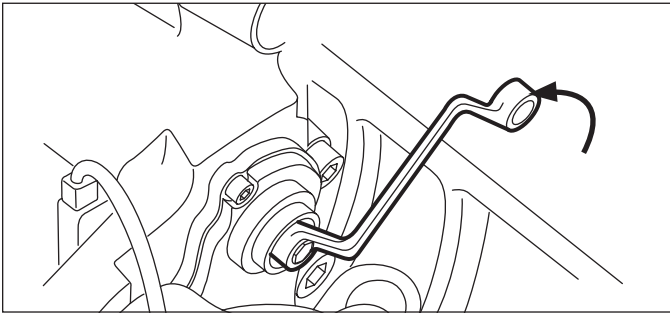

**Figure 14 – Clockwise Rotation**
5. Using a 10 mm, six-point box wrench, turn the shear adapter clockwise until the pads contact the rotor. Note: Do not use an open-ended wrench as this may damage the adapter. (See Figure 14).